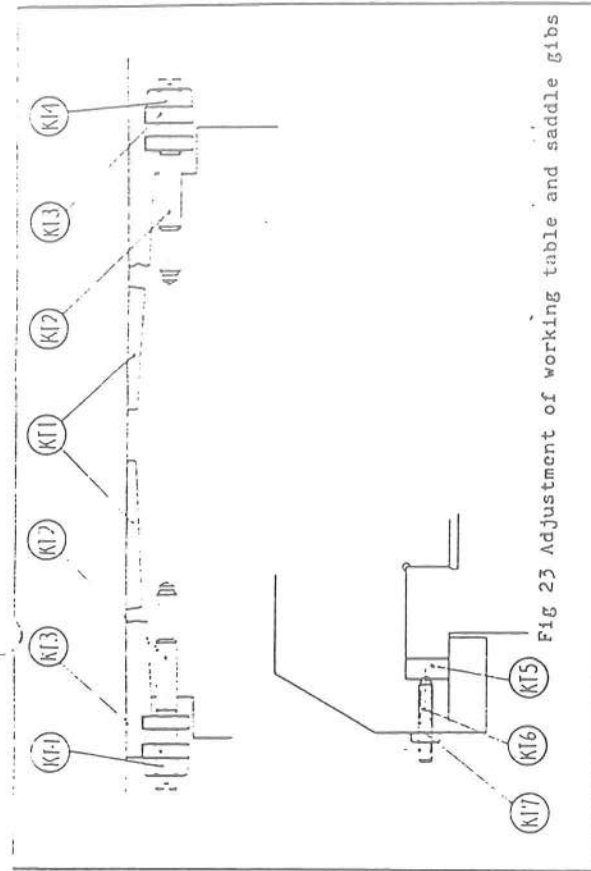

Fig 23 Adjustment of working table and saddle gibs
8-6 Adjustment of sliding surfaces of gib. (Fig 21, Fig 23)
C. Adjustment of gibs for table (Fig 23)
D. Adjustment of gib of saddle (Fig 23)